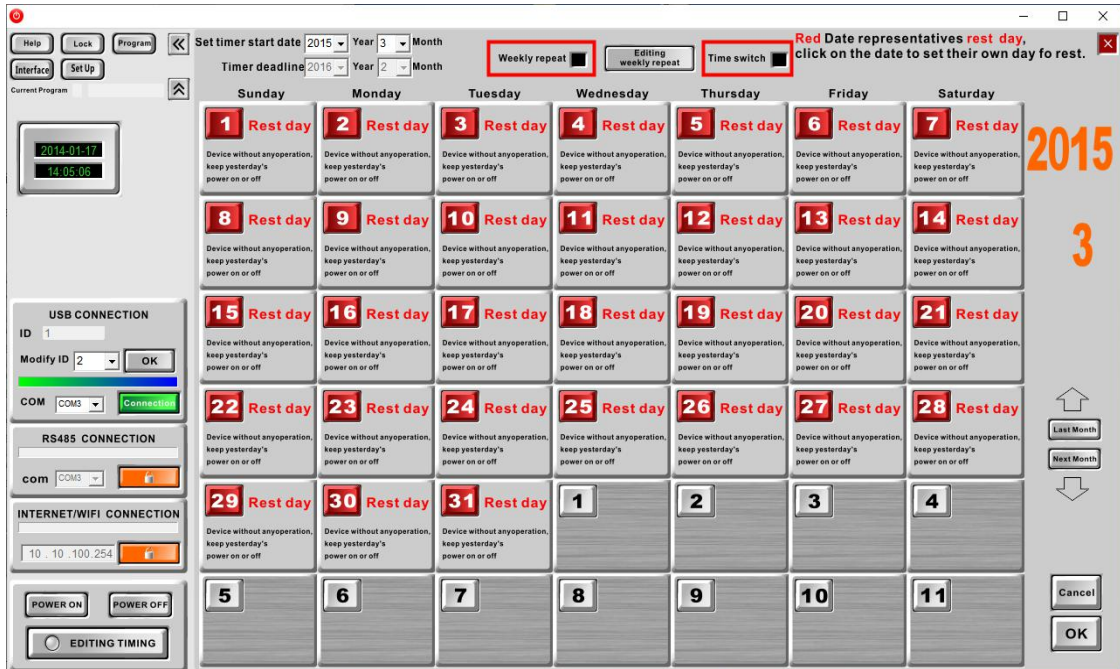

Figure 22
Step 1: Check "Timed on/off", check "Weekly repeat" to enable the "Weekly repeat" function, as shown in the red box in Figure 22 below.